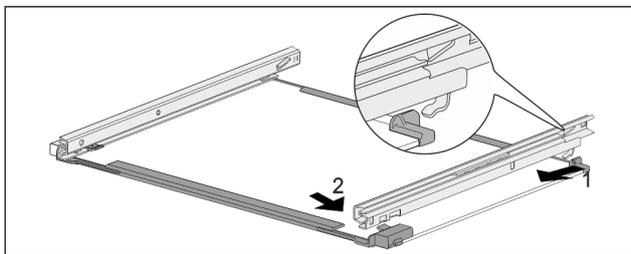

Fig. 78 Glass shelf with rails
- ▶ Hook in rail at the back. Fig. 78 (1)
- ▶ Hook in rail at the front. Fig. 78 (2)